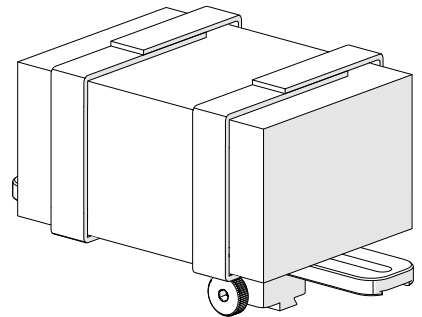

Fig. 162 - Velcro wrapped around preamp
3. Secure the preamp to the bracket attaching each side of the velcro (Fig. 162).